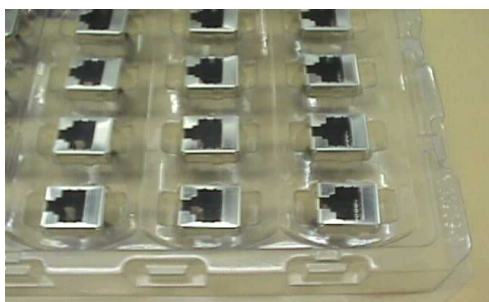

图 1
5.1. Load connects all orientated same way into tray(see: figure 1).
如图1所示将产品按同一方向放入TRAY中。